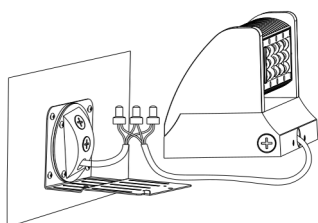

Figure 3-5
5. make wiring connection and go through isolation treatment.(Figure 3-5)